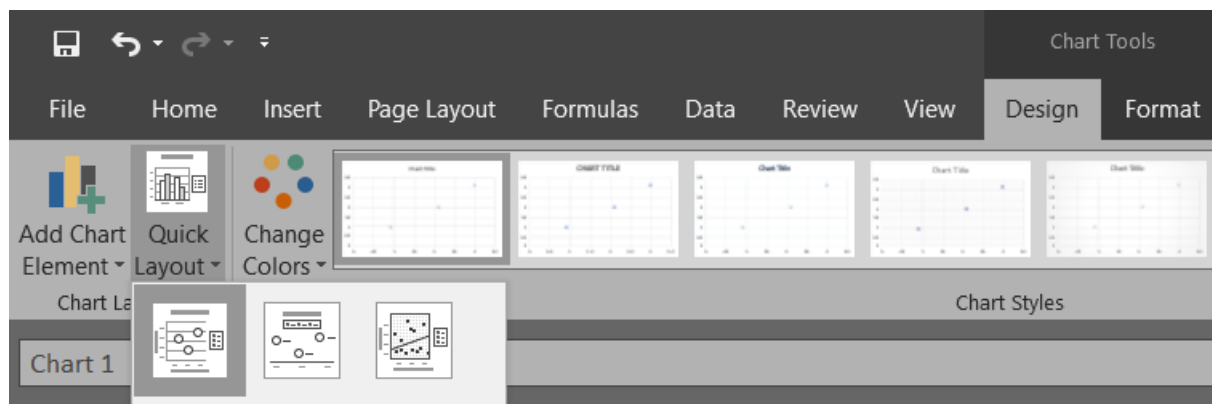

Fig. 4: Layout 1
6. Under Chart Tools, Design, click Quick Layout and choose Layout 1 (Fig. 4).